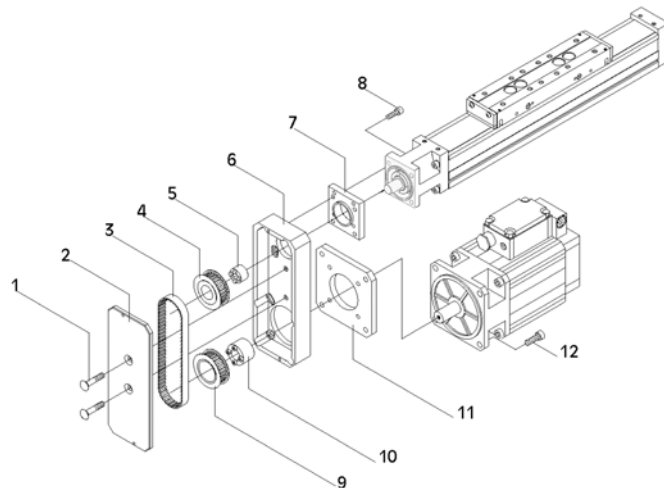

Fig. 8: Belt drive RT40
1. **Fig 8:** Fasten housing (6) to the bearing housing of the WM40 using adapter plate (7).
2. Put synchronous sprocket (4) with DKWN tension set, inside diameter 8 mm (5) on the drive shaft of the WM40.
3. Attach drive motor with adapter flange (11) on housing. Do not tighten the screws yet.
4. Put synchronous sprocket (9) with DKWN tension set, inside diameter 14 mm (10) on the motor shaft.
5. Lay toothed belt (3) round both synchronous sprockets, aligning them with each other. Then fix the synchronous sprockets on drive shaft and motor shaft with DKWN tension sets. (For tightening torque of the screws on the DKWN tension set, see table in Chapter 10 "Technical Data") Distance between top edge of housing and synchronous sprocket: 3mm (see Fig. 8).
1. **Fig 8:** Tighten toothed belt by shifting the motor with adapter flange (11).
2. Screw cover plate (2) onto housing.